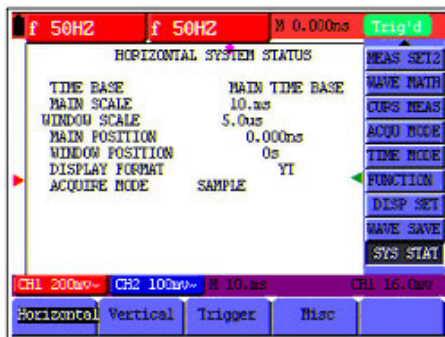

Figure 30.- System State.
3. Sequentially press key **F1** through **F4** key and the corresponding state information will be shown on the screen. The screen that looks like the following figure 30 will be displayed.